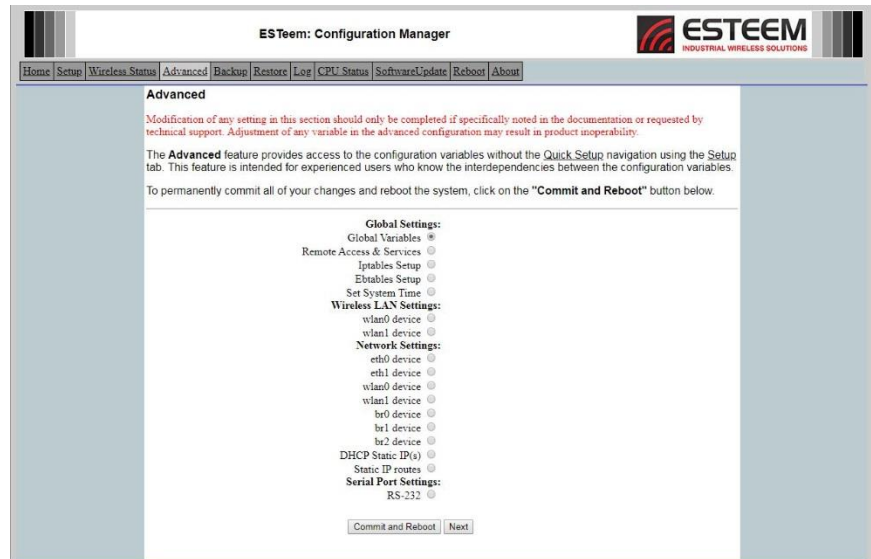

Figure 6: Advanced Features Screen
2. Select **Advanced** from the top Menu, select **Global Settings>Set System Time** (Figure 6) from the menu and press the **Next** button to continue.